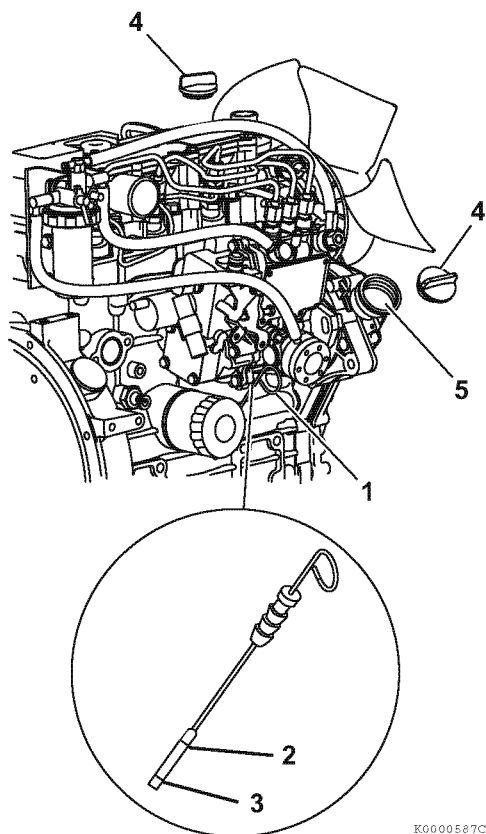

Figure 4-6
- 2. Remove dipstick (**Figure 4-6, (1)**) and wipe with clean cloth.
- 4. Remove dipstick. The oil level should be between upper (**Figure 4-6, (2)**) and lower (**Figure 4-6, (3)**) lines on the dipstick.
- 2. Remove oil cap (**Figure 4-6, (4)**).
- 3. Add indicated amount of engine oil at the top or side engine oil filler port (**Figure 4-6, (5)**).
- 6. Replace oil cap (**Figure 4-6, (4)**) and hand-tighten. Over-tightening may damage the cap.